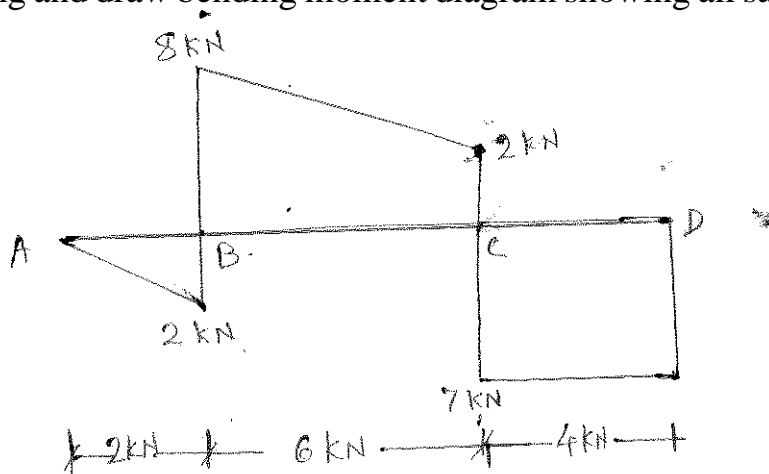

Fig. 4.1
4. a) Shear force diagram for a loaded beam is as shown in Figure 4.1. Determine the loading and draw bending moment diagram showing all salient points. 8